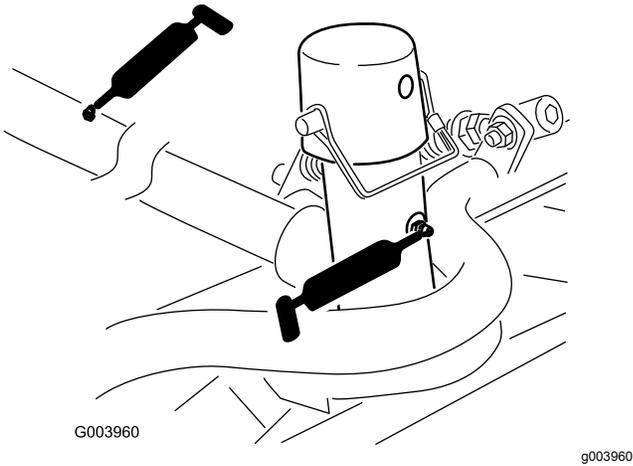

Figure 64
- Cutting-unit carrier-frame and pivot (2 each) (Figure 64)